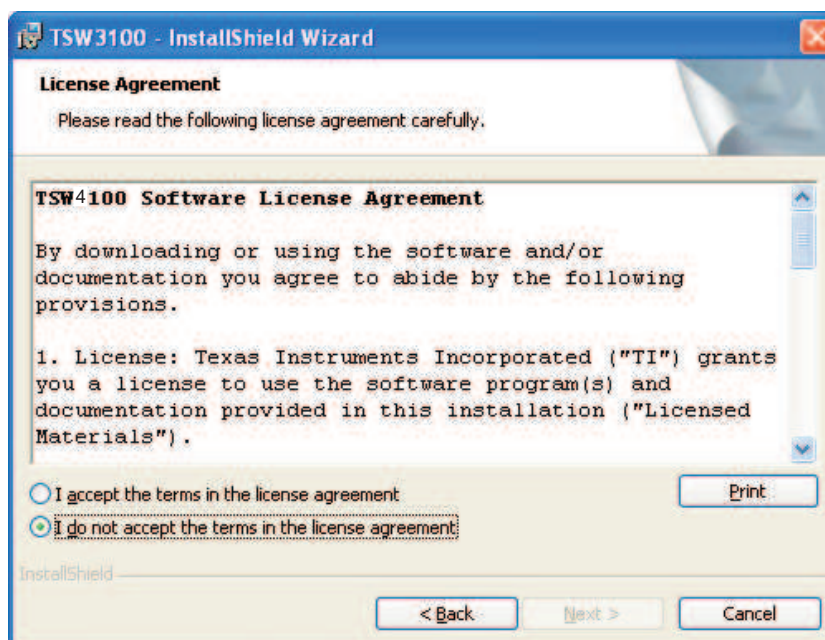

Figure 9. TSW4100 License Agreement
2. When the License Agreement (Figure 9) displays, select the *I accept the terms in the License agreement* option and click **Next** to accept the TSW4100 Software License Agreement.